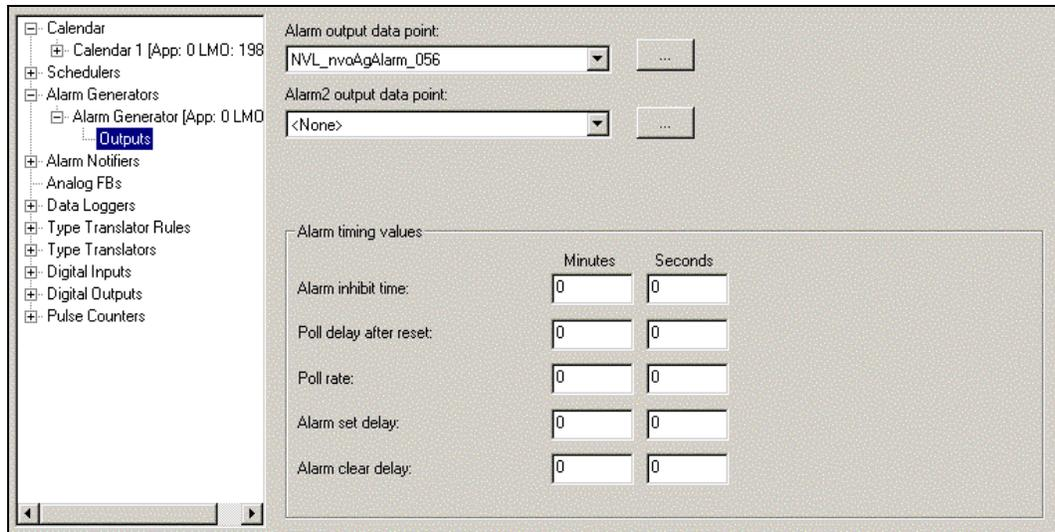

Figure 4.9 Output Tab
11. Set **Alarm Output Data Point** to **NVL_nvoAgAlarm**. This data point is associated with the **nvoAgAlarm** network variable on the **Alarm Generator** functional block (you should verify this as described in the note in step 3). The **Output** tab appears as shown in Figure 4.9.